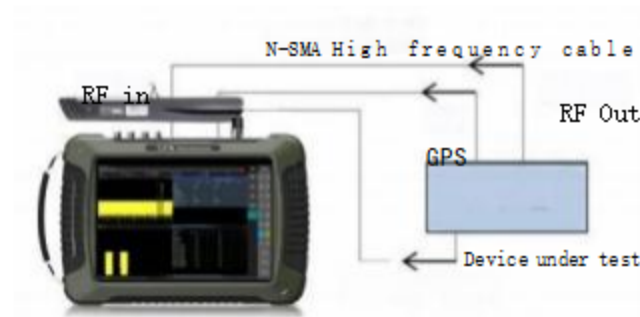

Figure 5.16 Schematic diagram of the tested equipment and RMT series spectrometer
- Step 1. Connect the signal output port of the device under test to the RF input port of the RMT series spectrometer, as shown in Figure 5.16. It is recommended to connect the reference signal for optimizing the test index. Referring to section 3.2.2.